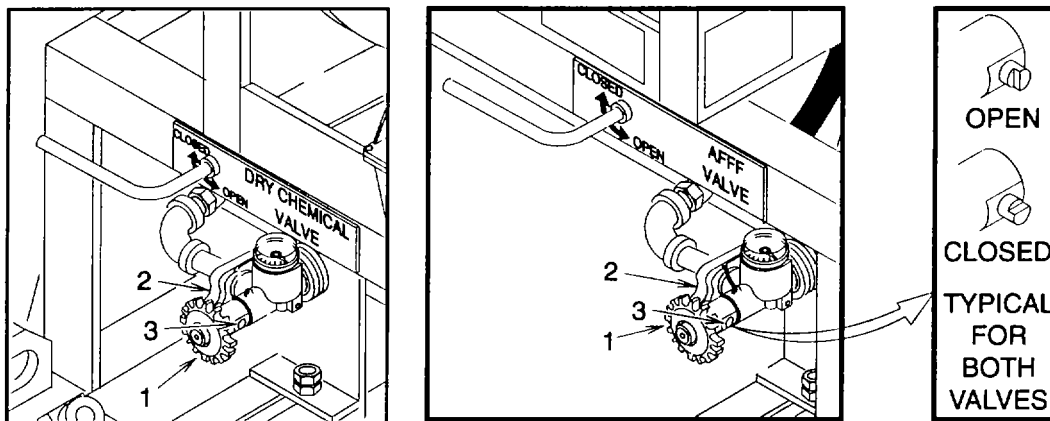
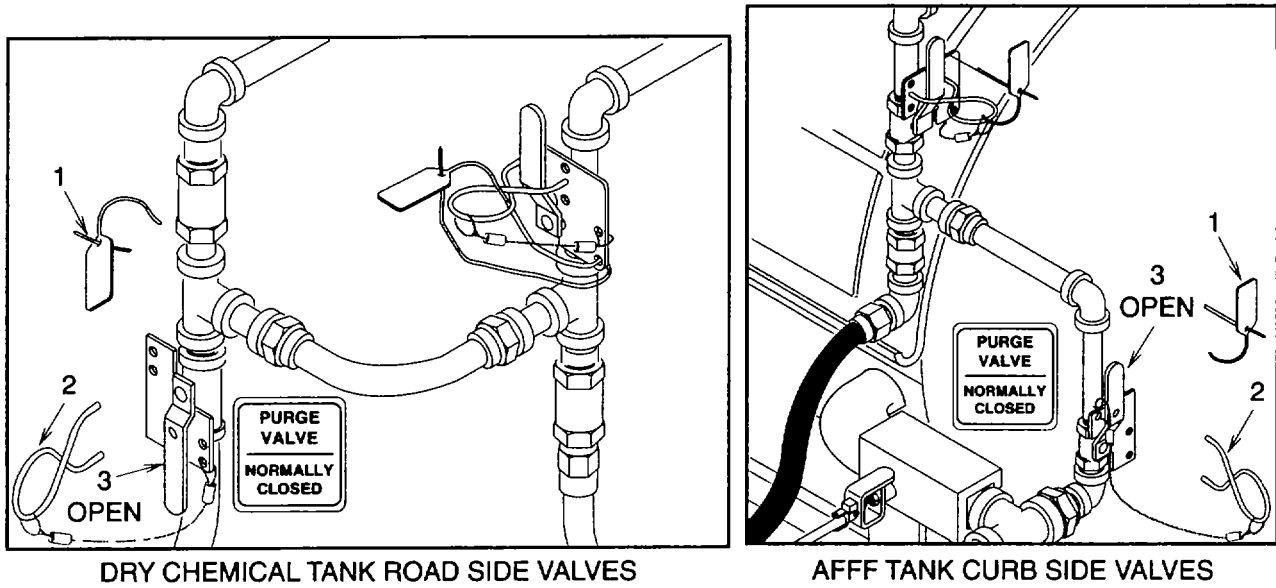
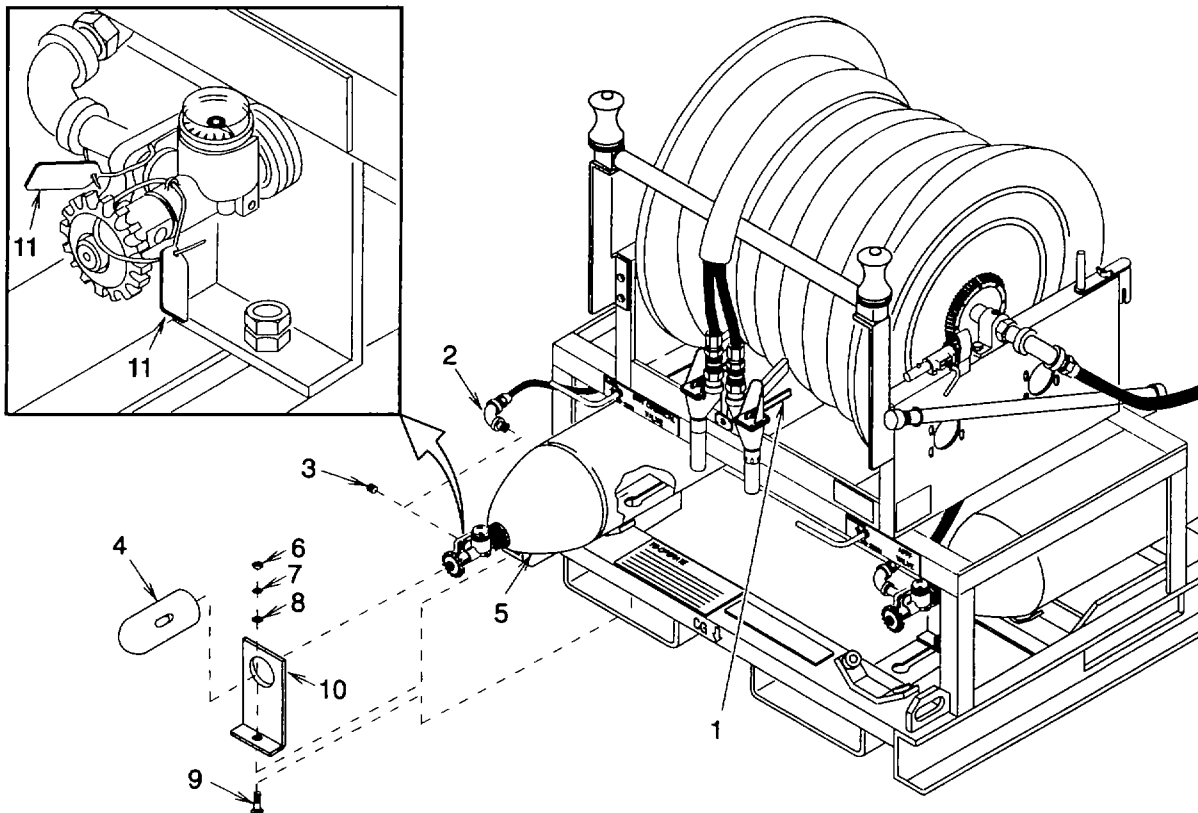

Figure 4-3. Cylinder Valves
Figure 4-4. Ball Valves
Figure 4-5. Cylinder Removal
- (1) Close cylinder valve if open
- (a) Turn cylinder valve hand wheel (1) (fig. 4-3) fully counterclockwise (open).
- (b) Close (lower) quick release lever (2) and rotate cross shaft (3) until flat is horizontal
- (c) Turn hand wheel (1) fully clockwise (closed).
- (2) Relieve system pressure
- (a) Remove strip tie (1) (fig. 4-4).
- (b) Pull retaining clip (2).
- (c) Open ball valve (3).
- (d) Squeeze fire hose nozzle valve lever (1) (fig 4-5) to relieve system pressure.
- (e) Close ball valve (3) (fig 4-4)
- (f) Install retaining clip (2) over ball valve (3) handle.
- (g) Install new strip tie (1).
- (3) Remove hose assembly (2) (fig 4-5) from valve (1) (fig. 4-3) and install shipping plug (3) (fig. 4-5). Care must be taken to protect the hose assembly fitting from damage when loose
- (4) Place shipping cap (4) over valve and secure to cylinder (5). Hand tighten only.
- (1) Close cylinder valve if open.
- (a) Turn cylinder valve hand wheel (1) (fig. 4-3) fully counterclockwise (open)
- (2) Carefully install full cylinder (5) (fig. 4-5) with gage facing up.
- (3) Slide stop plate (10) onto cylinder (5). Install screw (9), flat washer (8), new lock washer (7), and nut (6)
- (4) Remove shipping cap (4) and store for re-use.
- (5) Remove shipping plug (3), if installed, and store with shipping cap (4) for re-use.
- (6) Install hose assembly (2) onto cylinder (5) valve and tighten securely.
- (7) Check that two strip ties (11) are installed on cylinder (5) valve. If not, install them.
- (8) Check gage for pressure in cylinder (5). Pressure must not be below 1750 psi. (12075 kPa) for normal operation or below that listed in table 4-2 for current temperature.